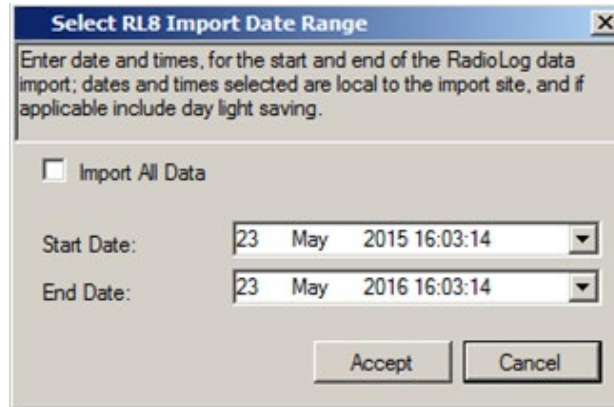

Figure 162
- The **Select RL8 Import Date Range** window will be displayed. See Figure 162 below: